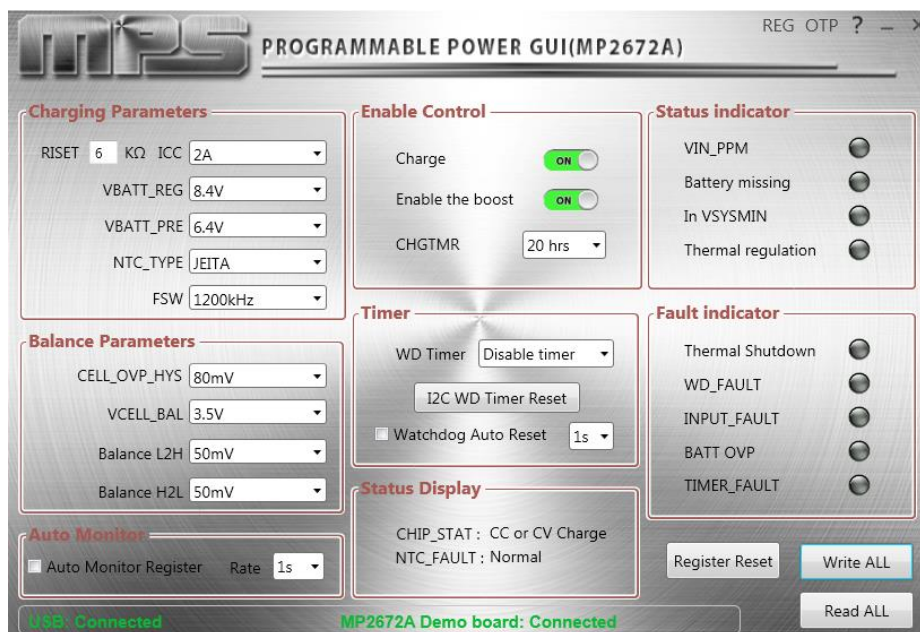

Figure 7: Connected EVKT-USBI2C-02 and MP2672A Demo Board
- If the connection is successful, both the EVKT-USBI2C-02 and MP2672A demo board statuses will be listed as “Connected” in green (see Figure 7).
2. Click the “Read All Registers” button to read the I²C register values. The default values should be displayed (see Figure 7).